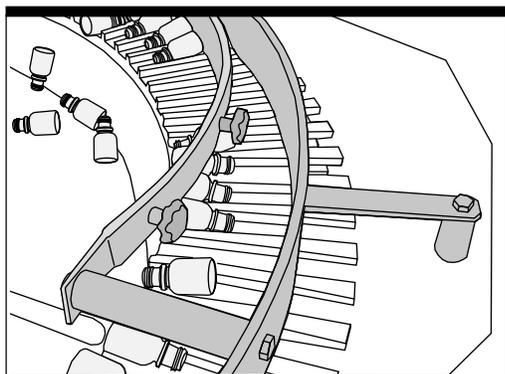

Figure 1-2. Product in Scallops and Height Qualifier
7	Figure 1-2. Product in Scallops and Height Qualifier
Step 2—The FS-30-RD Feeder Loads and Qualifies Your Product. After dropping onto the rigid disc, product loads quickly onto the rim of a rotating bowl and are positioned into the scallops (see Figure 1-2). While positioned in the scallops, the product moves past mechanical (height qualifiers), pneumatic and/or optical qualifiers which reject product that are not properly oriented. Improperly oriented product is returned to the bowl and recirculated.